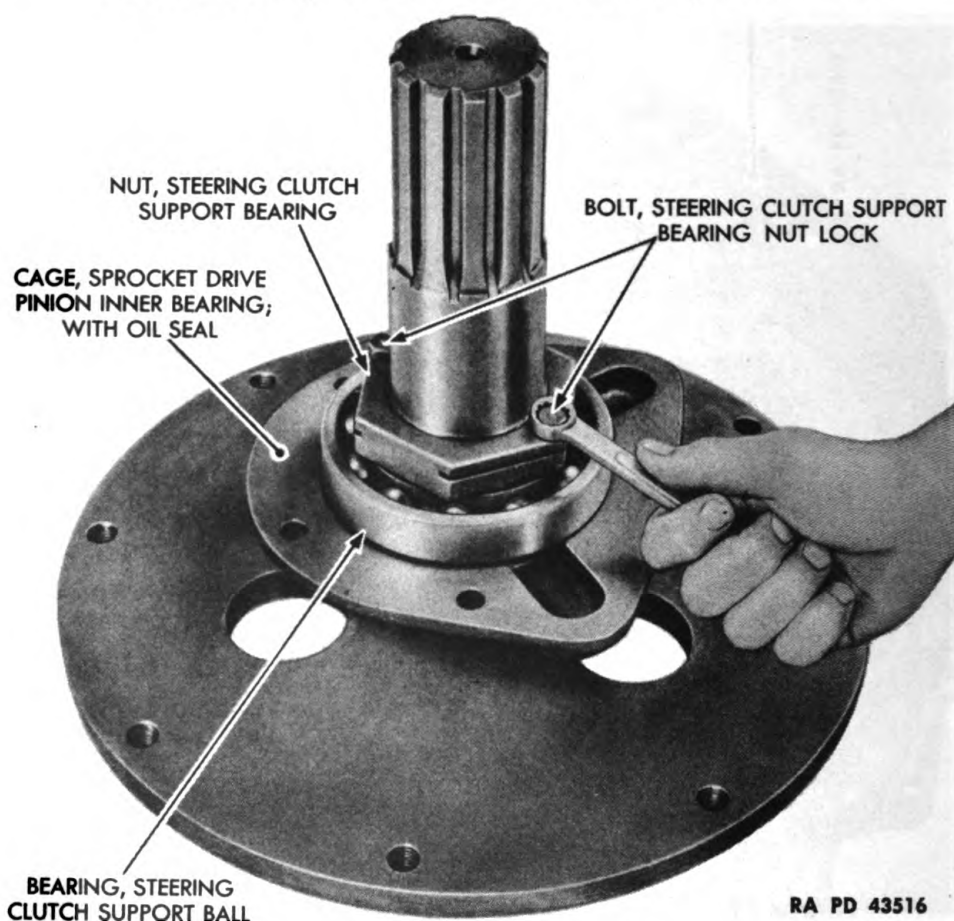

Figure 130 — Sprocket Drive Pinion Shaft Disassembly
- (3) REMOVE STEERING CLUTCH SUPPORT BEARING AND OIL SEAL (fig. 130).
(3) ASSEMBLE SPROCKET DRIVE PINION SHAFT (fig. 130).